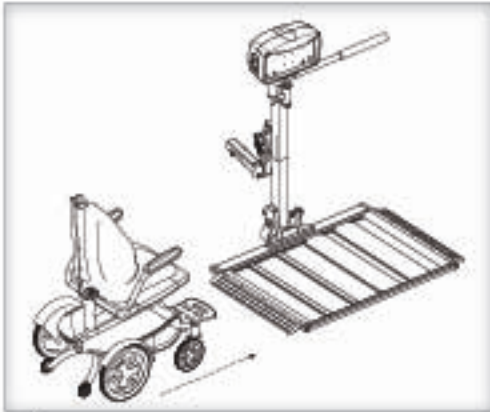

Figure 34-1
1. Drive chair onto platform after cradles have been adjusted. (See prior page.) [Figure 34-1]